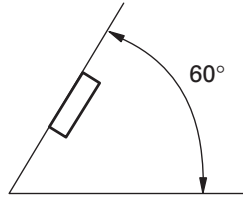

Fig. 6
- If installation angle exceeds 60° from horizontal, the unit might not give its optimum performance. (Fig. 6)